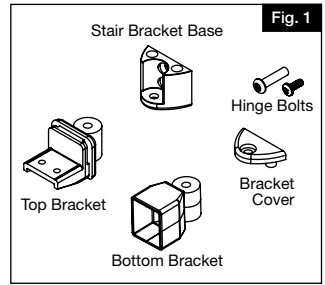

Fig. 1
- Taller posts (sold separately) may be needed for either bottom or top of the stairs, depending on the angle of the stairway or the location of where the posts will be installed relative to the nose of the stair tread. Bottom stair posts may also be moved out from bottom step (Fig. 1).
- a. Cut out bracket template from side of post box. Refer to angle bracket components (Fig. 1).